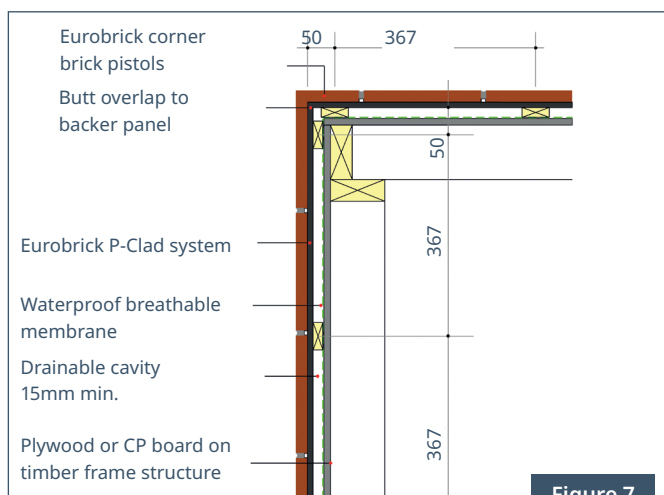

Figure 7
1. Panels must overlap to prevent the creation of a void in the area behind brick and be sealed with tape or adhesive to weather the joint. See Figure 7.